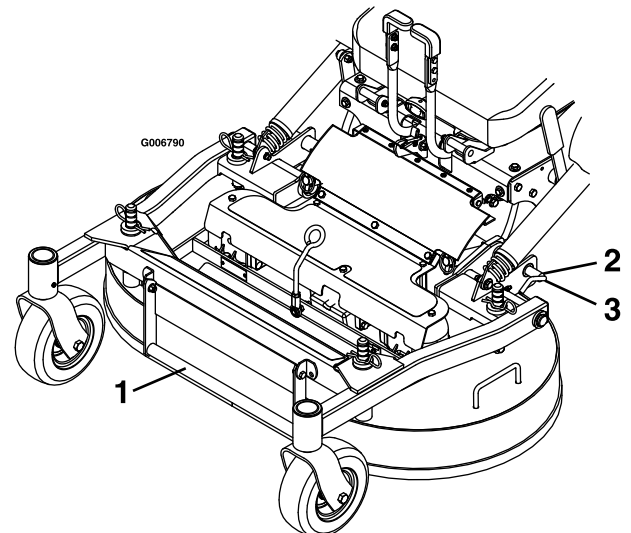

Figure 14
21. With the deck locking pins pulled out in the unlock position, carefully lower the deck (Figure 14).